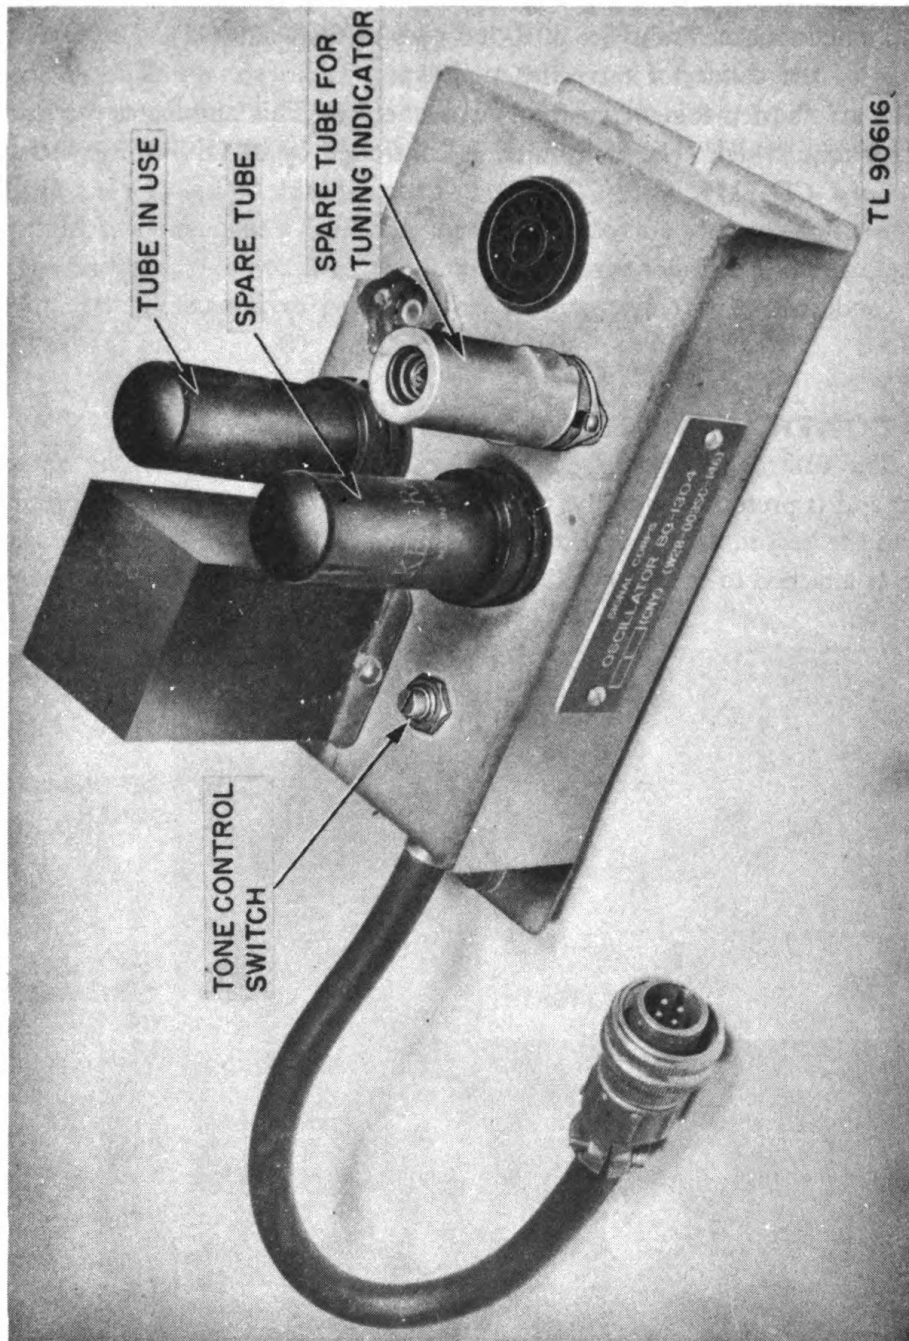

Figure 13. Oscillator BC-1304.
13. OSCILLATOR BC-1304. The audio oscillator (fig. 13), consists of a $\frac{1}{16}$ -gauge metal chassis $3\frac{3}{4}$ inches by $6\frac{1}{2}$ inches by $1\frac{13}{16}$ inches, upon which is mounted an audio transformer, 2 small octal sockets, 3 large octal sockets, a 5-point switch, and a 12-inch 4-wire cable with an amphenol connector. The audio oscillator uses a pentode 12A6 tube, one to be used and one to be carried on the chassis as a spare. A spare 1S4 tube for the tuning indicator is also carried on the chassis. The entire oscillator assembly is mounted within the antenna mount on a shock-proof plate. A Dzus fastener facilitates installation or removal of the oscillator and eliminates the need of tools.